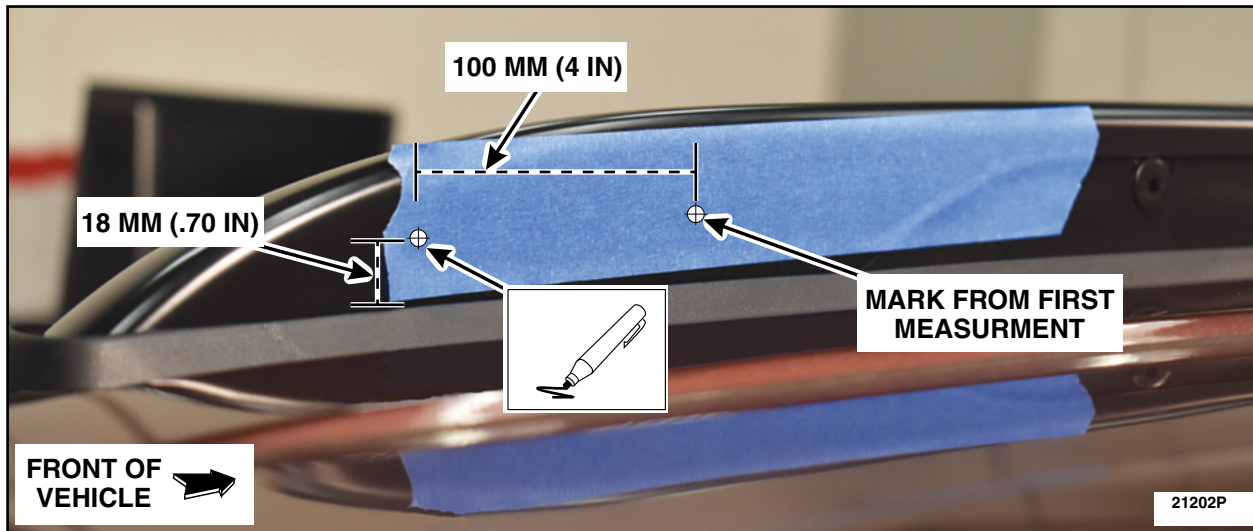

FIGURE 14
3. From the first mark, measure 100 mm (4 in) towards the rear of the vehicle and up 18 mm (.70 in) from the top of the roof rail base. Mark the measurement on the tape. See Figure 14.